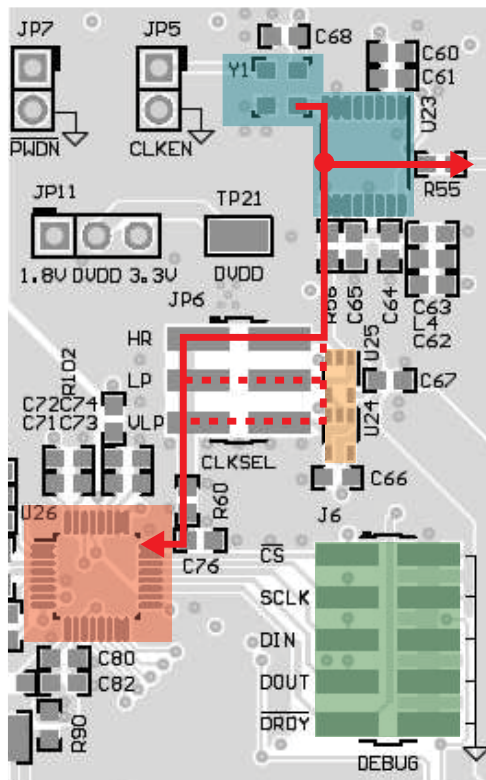

Figure 5. Example clock layout.
When designing the PCB layout for your clock source, take care to keep the clock signal as clean as possible. Although it is considered a digital input, treat the clock signal as if it were another important analog signal. Minimize trace impedances, route traces away from Serial Peripheral Interface (SPI) signals and other noisy circuitry, and consider including PCB footprints for a series resistor and shunt capacitor to help handle reflections or overshoot. **Figure 5** shows an example clock layout from the ADS127L01 EVM.
The red line in **Figure 5** traces the clock path from the source to the ADC (U26, highlighted in red). The clock path begins with the clock source (Y1), which is then fed into a clock fan-out buffer (U23). Both of these components are highlighted in teal in the top-right corner of **Figure 5**. The clock fan-out buffer generates two identical copies of the original input clock frequency: one to drive the ADC and another to drive a microcontroller (through R55).
To go to the ADC, the clock signal continues on through a small 43- Ω resistor (R56) in series with the clock buffer output to help dampen reflections. The clock signal then connects to a jumper (JP6) that selects one of three different ADC clock frequencies. The other two clock frequencies are produced by two D flip-flops (U24 and U25, highlighted in orange in **Figure 5**). These components divide down the clock buffer output to produce the clock for the other two modes: low-power mode and very-low-power mode. All three mode choices are also synchronous to the original clock source. In **Figure 5**, the solid red line passes through the high-resolution mode selection.
- **The clock signal quality at the ADC input.** If the clock signal at the ADC clock input pin shows excessive overshoot and ringing, you may need to slew the clock edges further by adding or increasing the size of the small series resistor and shunt capacitor (R60 and C76 in **Figure 5**, respectively). Adding these components effectively applies a low-pass filter to the clock input while preserving the fundamental clock frequency. You may also notice what appear to be “shelves” or “steps” in the clock edges. This is caused by reflections of the clock signal as it travels along a trace and runs into a high-impedance input. A series resistor will help dampen these clock reflections.